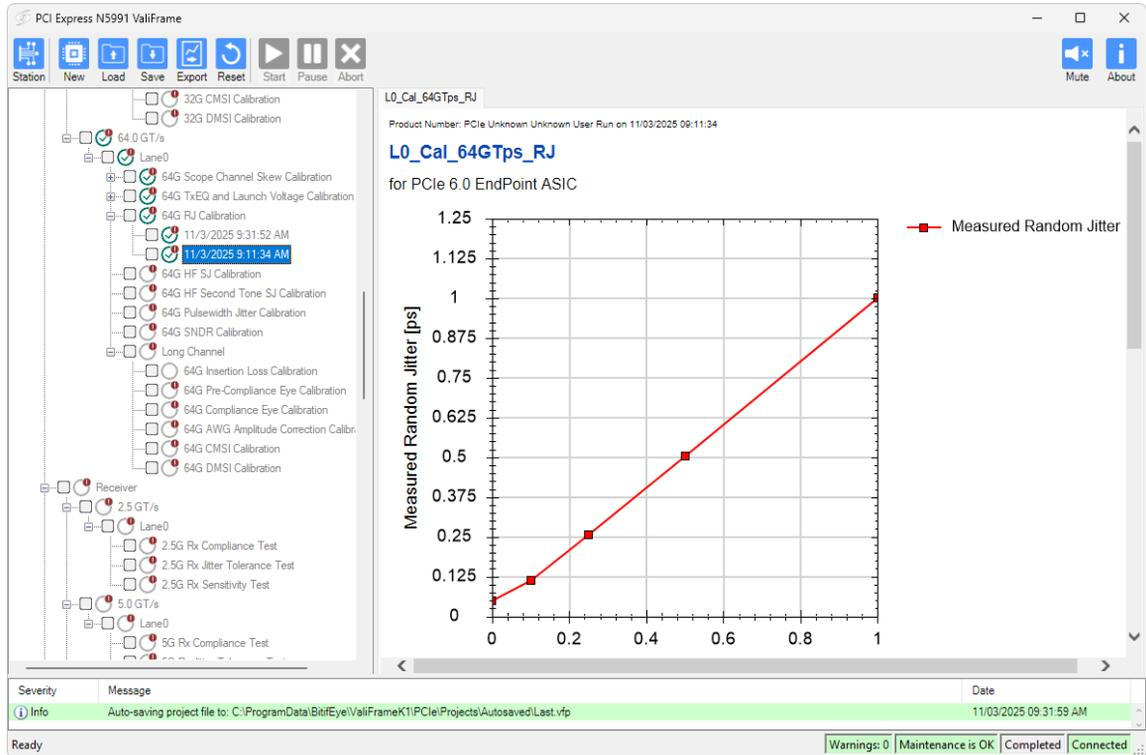

Figure 5-21 Displaying a particular set of results
- Left-click the timestamp of the results you want to see. The results will be displayed in the right-hand pane of the main window (Figure 5-21).